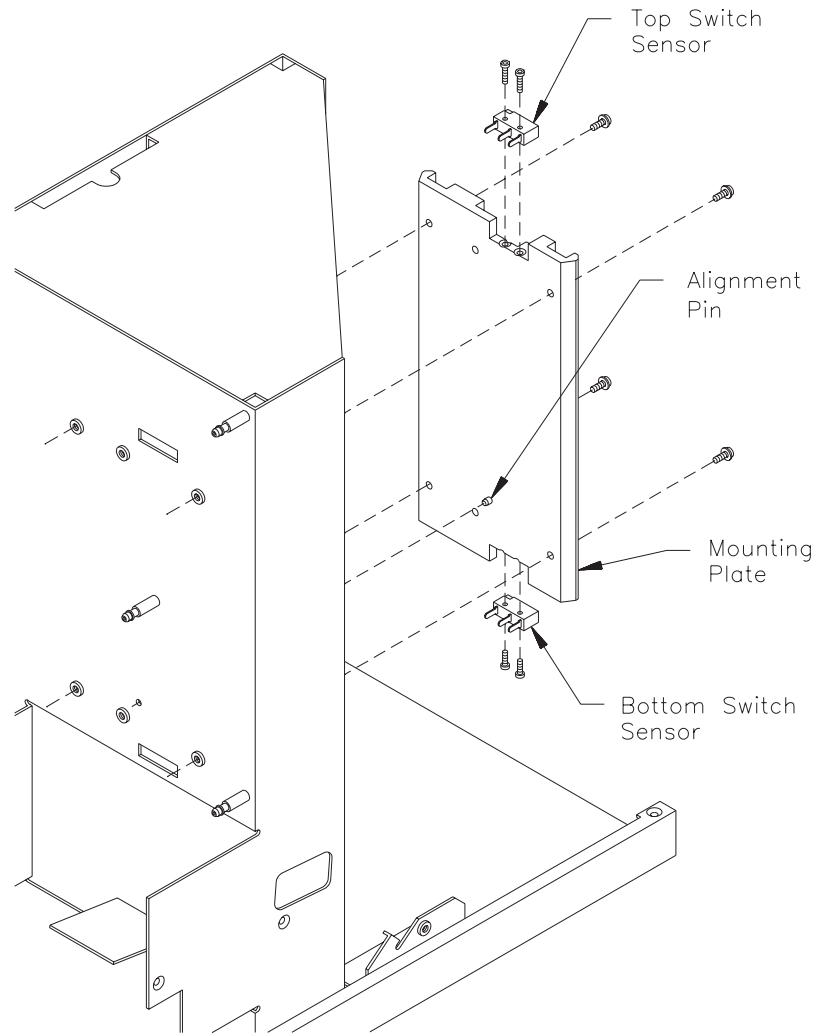

Figure 20-2 Mounting plate and switch sensors (removed from the CHS)
7. Locate the mounting plate on the opposite side of the chassis wall. Using a T-15 TORX driver bit, remove the four screws that hold the mounting plate in place. See Figure 20-2 for the location of these screws.
8. Locate the two switch sensors on the top and bottom of the mounting plate. See Figure 20-2 for the switch sensor locations. Using a T-8 TORX driver bit, remove the four screws that hold the switch sensors on the mounting plate. Two screws are located on the top sensor and two are located on the bottom sensor, as shown in Figure 20-2.
2. Align the screw holes on the mounting plate with the screw holes on the chassis wall. Figure 20-2 shows the locations of the screw holes. Use a T-15 bit to replace the four screws (#6-32 × 3/8-inch crest cup machine screws). Tighten the screws to 12.0 inch-pounds of torque (13.8 kg-cm).